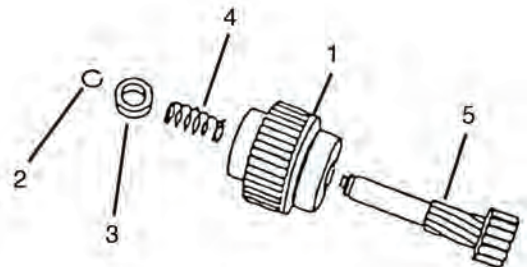

Figure 349
12. Disassemble the pinion stop (3, Figure 349), return spring (4, Figure 349), pinion clutch assembly (1, Figure 349), and pinion shaft (5, Figure 349).